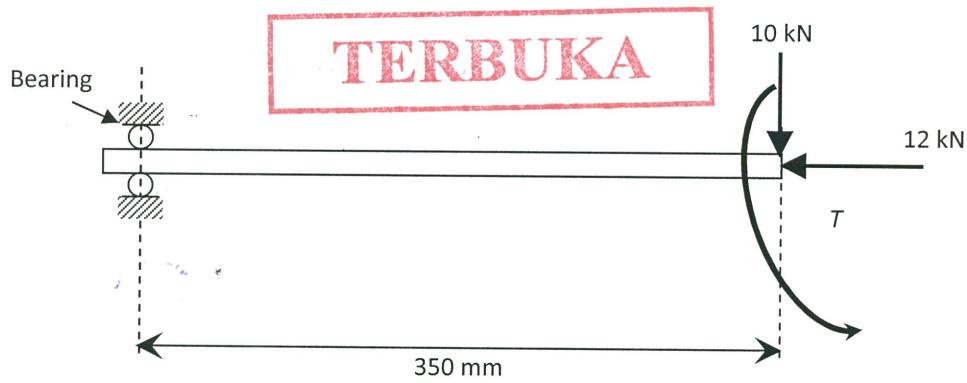

Figure Q4
- (b) A horizontal shaft of 75mm in diameter and 350 mm in length projects from a bearing as shown in **Figure Q4**. The vertical load of 10 kN, horizontal compression load of 12 kN and torque,  $T$  Nm are applied at the free end of the shaft. If the safe stress for the material is 145 MPa and assuming the Poisson's ratio is 0.3. Determine the torque,  $T$  to which the shaft may be subjected using the following theories:
**Q6.** A simply supported beam ADB with a length of  $L$  as shown in **Figure Q4** is loaded with a uniformly distributed force,  $w$  along the length of  $b$ . Considering the Castigliano's theorem: